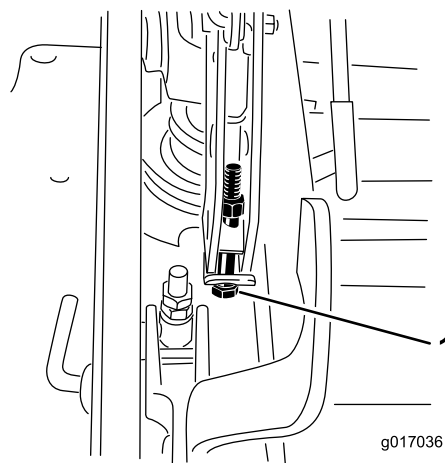

Figure 80
13. If the deck is too low, tighten the single-point adjustment bolt by rotating it clockwise. If the deck is too high, loosen the single-point adjustment bolt by rotating it counterclockwise (Figure 80).